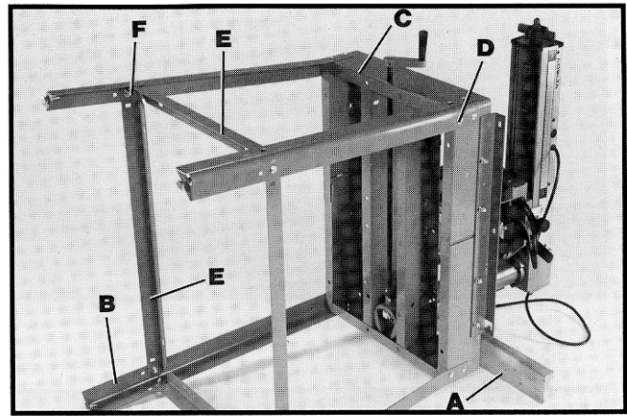

Fig. 15
2. Mechanically raise the saw or carefully tilt the saw on its back as shown in Fig. 15. **NOTE:** If tilting the saw on its back to assemble the legs, place a piece of wood (A) Fig. 15, under the elevating column for support and to prevent damage to the saw when assembling the legs.
3. Assemble four legs (B) Fig. 15, to saw base (C) with sixteen 3/4 inch-long carriage bolts (D), flat washers, lockwashers, and hex nuts. **NOTE:** Do not tighten mounting hardware at this time.
4. Assemble four side and back braces (E) Fig. 15, to legs (B) as shown in Figs. 15 and 16, using the remaining eight 3/4 inch-long carriage bolts (F), flat washers, lockwashers and hex nuts.